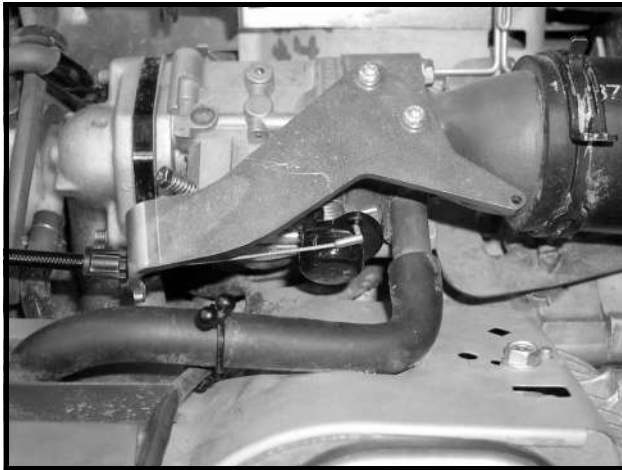

Figure 13a-27 Choke Cable on Engine
1. Secure a new choke cable to the nylon cord outside of the instrument panel. Pull the cable from the engine compartment down to the choke cable bracket and choke control (**Figure 13a-27, Page 13a-28**).